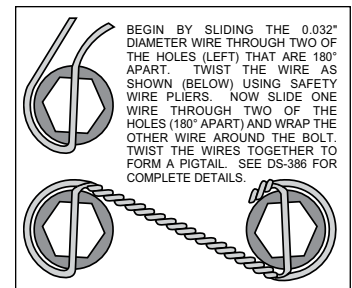
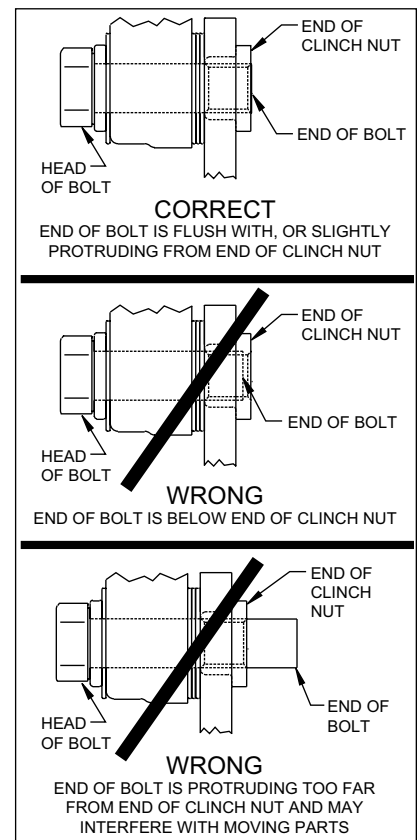

Figure 4. Safety Wire Diagram
Figure 5. Clinch Nut Engagement Diagram
CAUTION: All mounting bolts must fully engage clinch nuts. Be sure to check that all bolts are either flush or protruding through flanged side of clinch nut after shimming, Figure 5.
- With the slot pointing upward and the mounting ears pointing towards the rear of the vehicle, install the caliper mounting bracket (1) to the housing flange using the stock Original Equipment Manufacturer (OEM) bolts and nuts. Stock OEM hex nuts that retain the bracket (1) should be on the wheel side of the bracket. Apply red *Loctite*® 271 to the stock OEM bolt threads and torque to OEM specifications. **NOTE:** Some brackets act as the bearing retainers, while others help locate the bearing in the axle housing flange. If the stock bearing plates are still on the axle, the caliper mounting brackets (1) should be located between the axle housing flange and the bearing retainer plate. Make sure the heads of the caliper mounting bracket insert nuts are FACING OUTWARD TOWARDS THE WHEEL.
- The rotor (3) has two sides. A flat side and an inset side. Bolt hat (2) to flat side of rotor (3) using bolts (5). Apply red *Loctite*® 271 to the bolt threads and torque to 25 ft-lb using a criss-cross pattern. Safety wire bolts using standard 0.032 inch diameter stainless steel safety wire as shown in Figure 4. Refer to Wilwood's data sheet DS-386 (available at www.wilwood.com/Pdf/DataSheets/ds386.pdf) for complete safety wire installation instructions.
- Align the correct hole pattern in the hat (2) with the stud pattern on the axle flange. **NOTE:** Some OEM and after market axles come with stud sizes larger than 0.50" diameter. Verify stud size and have a qualified machine shop drill the hats to the correct size. Slide the hat/rotor assembly (2 and 3) over the wheel studs and against the axle flange face.
- NOTE:** Please reference the caution statement at the beginning of the assembly instructions. Mount the caliper (6) over the rotor (3) and onto the caliper mounting bracket (1) using washers (7) and mounting bolts (8). View the rotor through the top opening of the caliper. The rotor should be aligned in the center of the caliper. If not, adjust the caliper by using 0.032 inch shims (9) by placing them between the caliper mounting bracket (1) and the caliper (6). Add as many shim washers (9) as necessary to achieve the correct alignment. **NOTE:** The end of the bolt must be flush with or slightly protruding from the head of the clinch nut. See Figure 5. Place spare shims (9) between washer and caliper mounting ear to achieve the proper mounting fastener configuration. Always use the same amount of shims on both the top and bottom caliper mounting bolts (8). Apply red *Loctite*® 271 to the mounting bolt threads (8), torque to 40 ft-lb. Caliper mount bolts may be safety wired for additional security.
- Position the Wilwood disc brake pads (10) into the caliper (6) and fasten with cotter pin (4). Steel backing plate side of brake pad should face the caliper pistons.